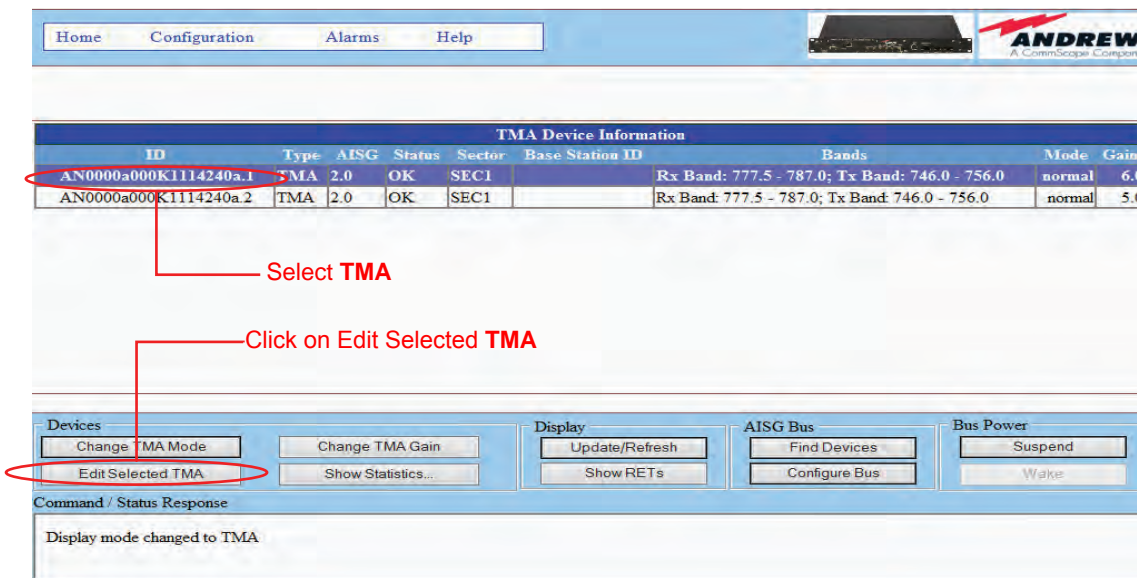

Figure 23-4. ATC300 Controller's Main Interface Screen – TMA View.
5. Figure 23-4 shows that one AISG TMA product is installed at the site.
1. To configure a TMA, select it from the TMA device list on the controller's main screen, as shown in Figure 23.4. Then click on **Edit Selected TMA** to enter the TMA Device Configuration screen (Figure 23-5). Notice that the ID for the device that was selected from the main screen appears in the title bar of the Device Configuration screen.